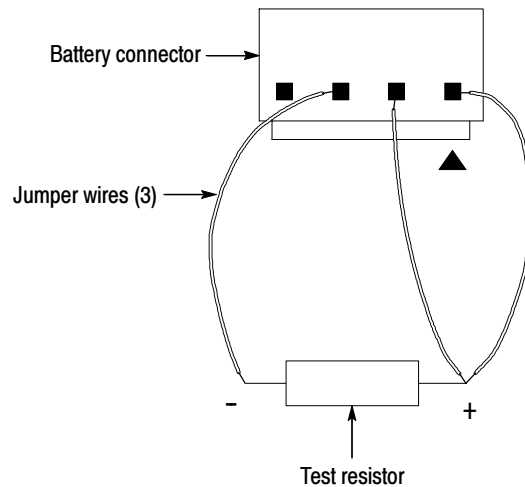

Figure 6-16: Testing the battery charging circuit
3. Use three jumper wires to connect a 30 Ω , 3 W resistor to the battery connector pins, as shown in Figure 6-16.
4. Attach the voltmeter across the test resistor shown in Figure 6-16.